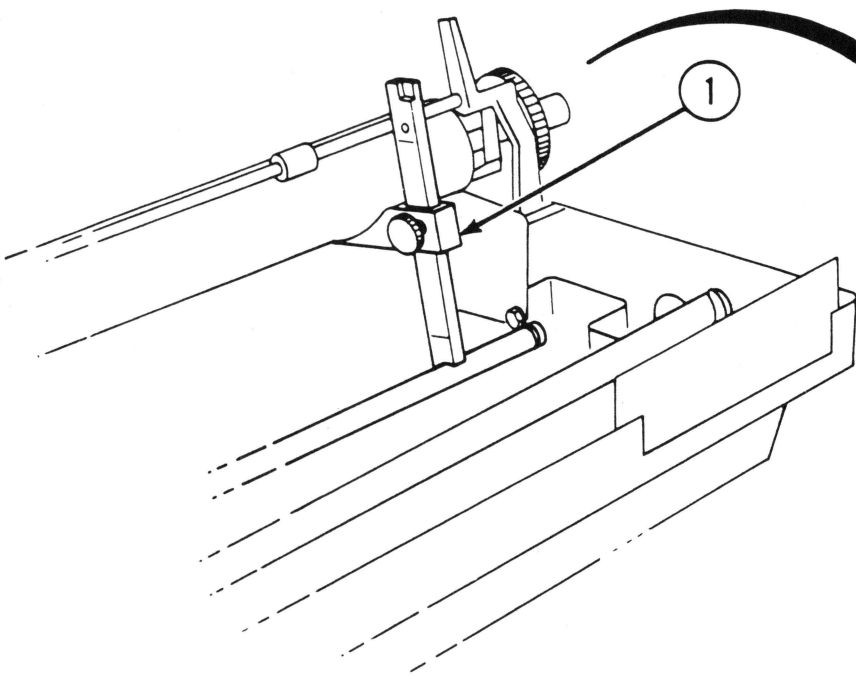

FIGURE 3
6. Set combo gauge slide to the #2 position and place it between the carriage assembly rear shaft and the platen near the right side. (See Figure 3, #1.)